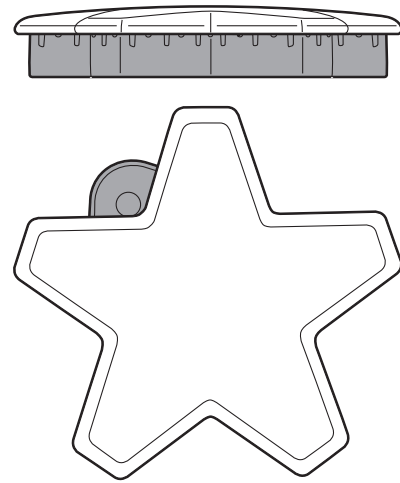
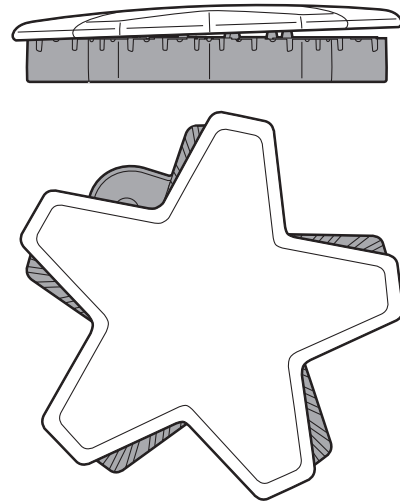

Figure 11: Correct Burner Cap Placement
Figure 12: Incorrect Burner Cap Placement
- Check each burner to make sure there is no gap between the burner cap and burner base. See *Figure 11* and *Figure 12* for examples of correct and incorrect placements of the burner cap.
- You may gently try to move the burner caps from side to side to check if the caps are properly placed on the burner bases. When properly placed, each burner cap will rest flat on top of its burner base, and completely cover the star-shape of the burner base when viewed from the top as shown in *Figure 11*.